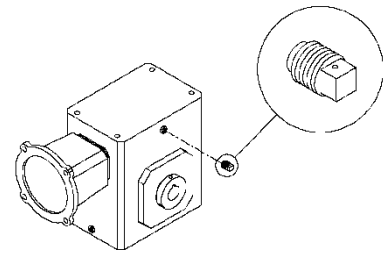

Figure 3 –
- Make sure vent plug (*Figure 3*) is clean and the orifice is open.